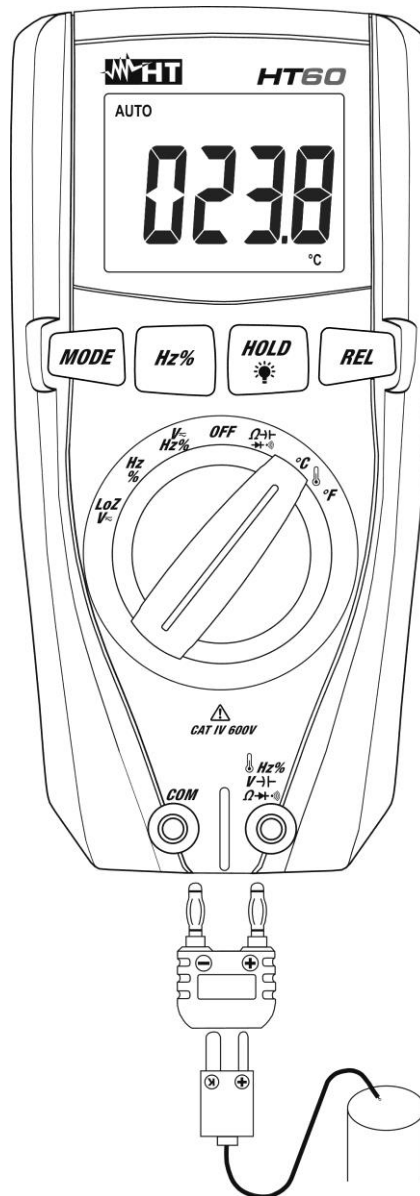

Fig. 9: Use of the instrument for Temperature measurement
2. Insert the provided adapter into input terminals **Hz% V- Ω- (polarity +)** and **COM (polarity -)** (see Fig. 9).